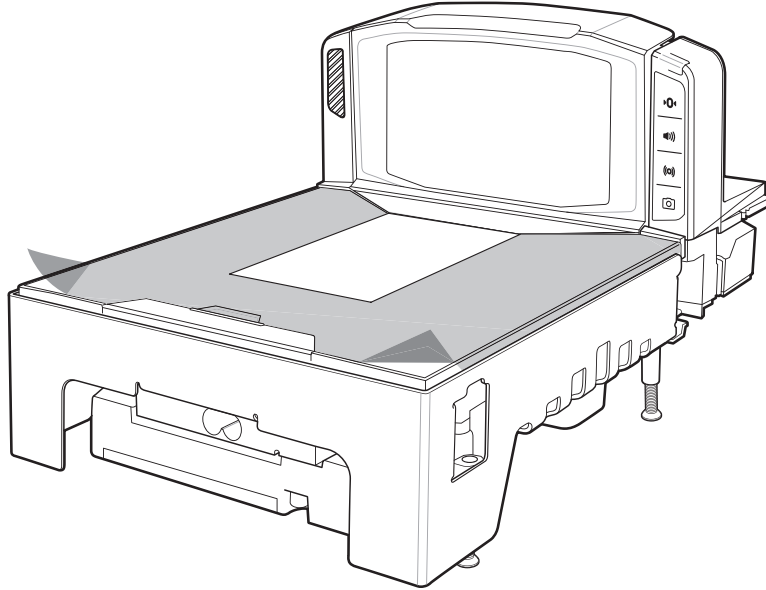

Figure 3-4 *Platter Protector*
2. For added protection during shipment, the MP70XX platter is covered with a tight fitting layer of plastic as shown in *Figure 3-4*. This plastic layer must be removed before placing the unit into service. (In the case of a scale model, just before scale calibration; and, in case of a non-scale model, as the final step of installation)